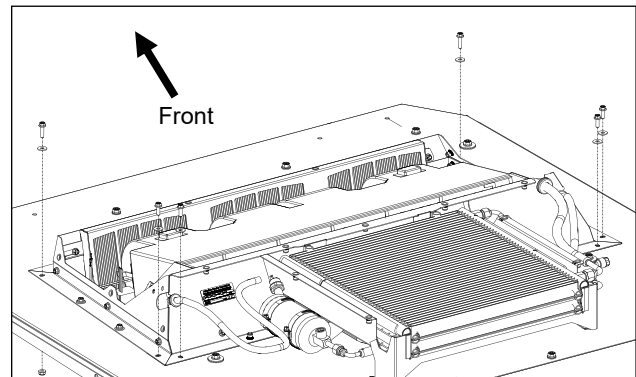

Fig. 4.9 A/C Unit to Cabin/Vehicle Fasteners
- 4.9 Per fig. 4.9, install the (6) bolts, nylon washers and lock nuts securing the A/C unit to cabin and vehicle. Washers under bolt heads.